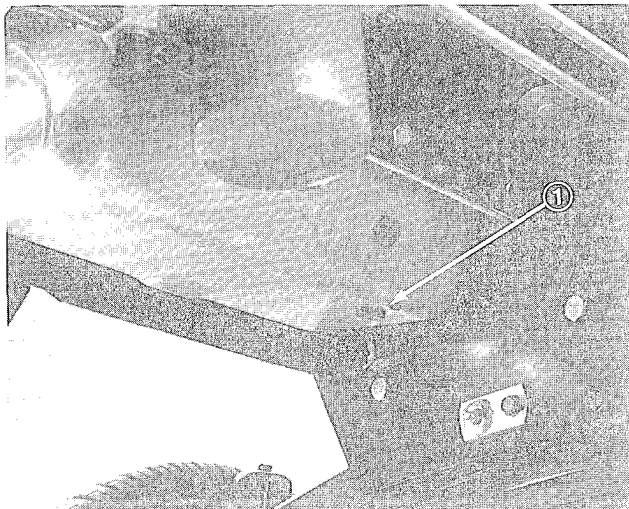

Figure 37
ENGINE OIL AND FILTER (Fig. 37–38)
1. Remove drain plug (Fig. 37) and let oil flow into drain pan. When oil stops, install drain plug and new plug seal.